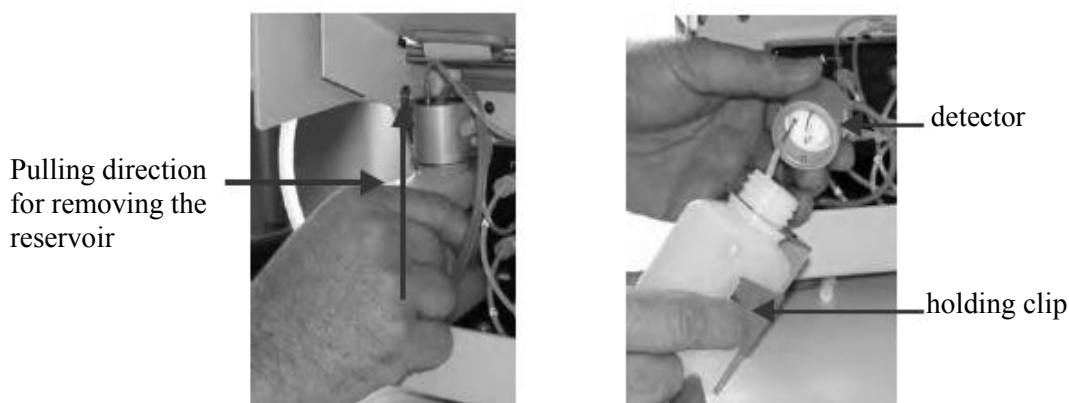

Figure 6. Removing the liquid reservoir of the rear-seal wash system.
- 6.2.1.5.1. Hold the liquid reservoir including the holding clip and push both parts together vertically toward the top (See Figure 6).